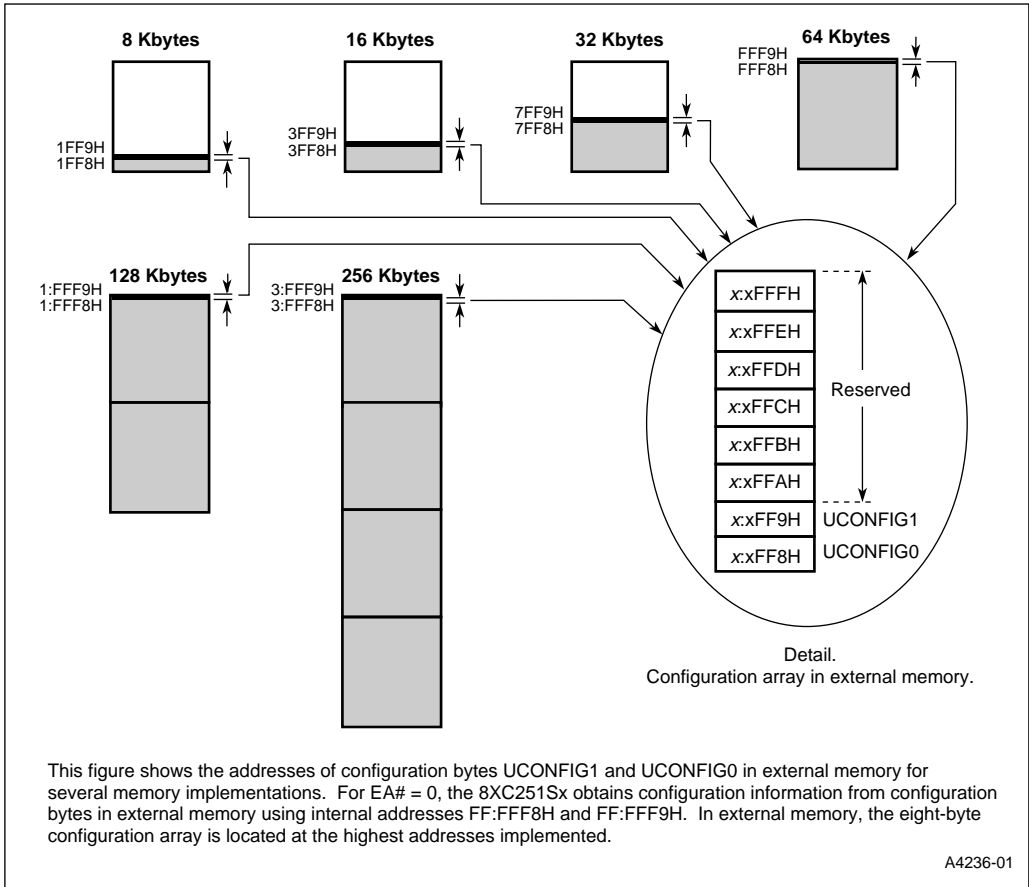

Figure 4-2. Configuration Array (External)
For ROM/OTPROM/EPROM devices, user configuration bytes UCONFIG0 and UCONFIG1 can be programmed at the factory or on-site using the procedures provided in Chapter 14, “Programming and Verifying Nonvolatile Memory.” For devices without ROM/OTPROM/ EPROM, the designer should store configuration information in an eight-byte configuration array located at the highest addresses implemented in external code memory. See Table 4-1 and Figure 4-2.
- Address. UCONFIG0 is the second-lowest byte of the 8-byte configuration array. As determined by UCON and EA#, the 8XC251Sx fetches configuration information from on-chip nonvolatile memory at addresses FF:FFF8H and FF:FFF9H or from external memory using these same addresses. In external memory, configuration information is obtained from an 8-byte configuration array located at the highest addresses implemented. The location of the configuration array in external memory depends on the size and decode arrangement of the external memory (Table 4-1 and Figure 4-2).